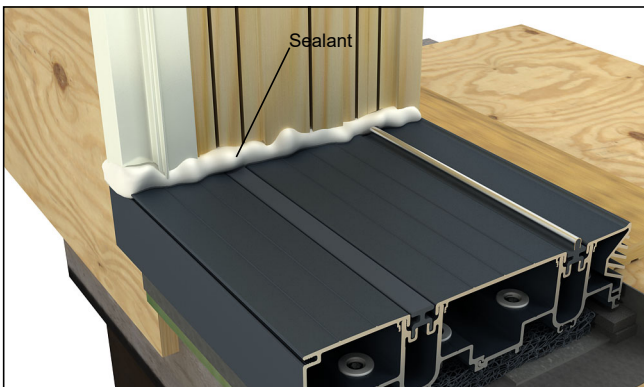

Figure 35
- For sill/jamb joints, apply sealant between the sill cover and the jamb from the interior to the exterior. See figure 35.